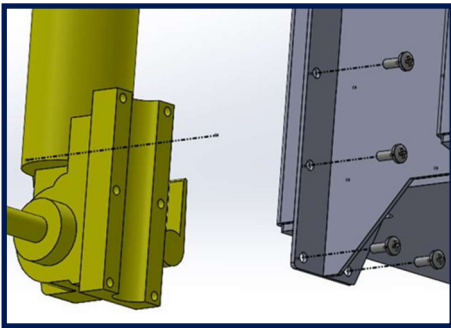

Figure 2A
2. Once the brake is removed, remove the six socket head screws that hold the outer clamping plate to the motor. This plate will not be used and can be discarded. Keep the socket head screws that were removed and use them to mount the motor to the chassis. Use Loctite to keep the screws from vibrating loose. See **Figure 2A** and **2B**.